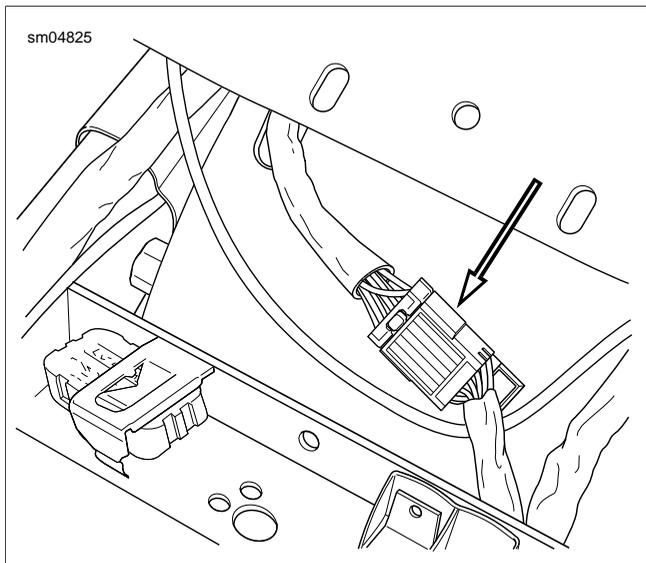

Figure 2-164. Rear Fender Lights Connector
4. Disconnect rear fender lights connector [7] anchored at front of rear fender. Release anchor from fender hole. See Figure 2-164.
10. Connect rear fender lights connector [7] and snap anchor in rear fender hole. See Figure 2-164.